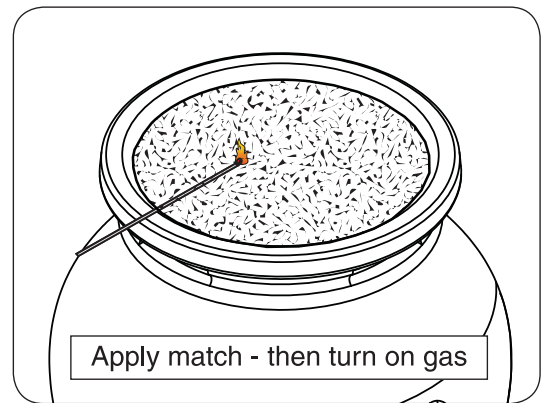

Fig. 23-1
- 3. Lay a lighted long-stem match on the surface of the decorative media near the burner (**do not hold the match in your hand**) or use a lighted long-necked butane lighter (Fig. 23-1).